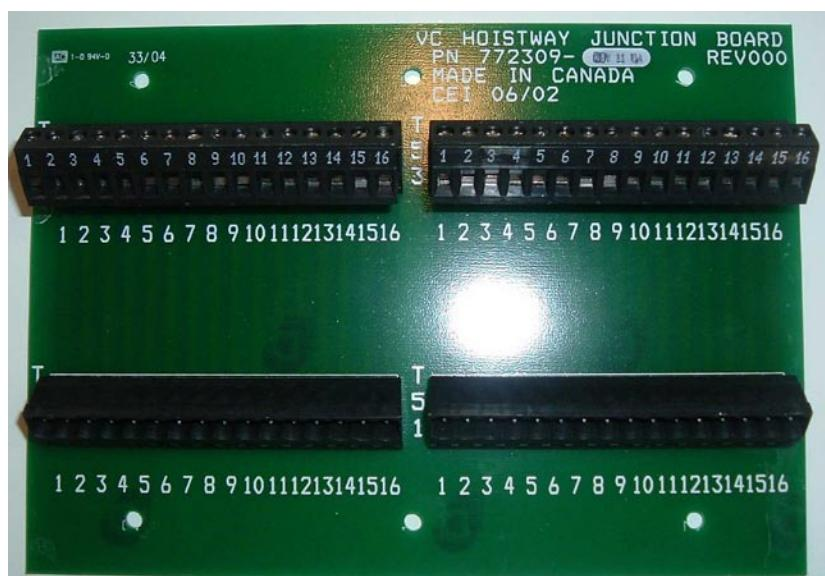

Figure 98 Hoistway Junction Board
- 2) Attach the travelling cables to the underside of the platform using the under cab cable bracket (Figures 98 and 99). Secure the under cab cable bracket to the bottom of the platform using #10- $\frac{1}{2}$ " wood screws. Leave a large loop of cable at the point where the travelling cables exit the under cab cable bracket. The loop should be large enough to accommodate the full up and down travel of the elevator. Ensure there is sufficient slack in the cable when the elevator is at the top and bottom landing before final fastening or routing of travelling cable.
- 3) When two (2) travelling cables are used, insert both cables under the wedge.